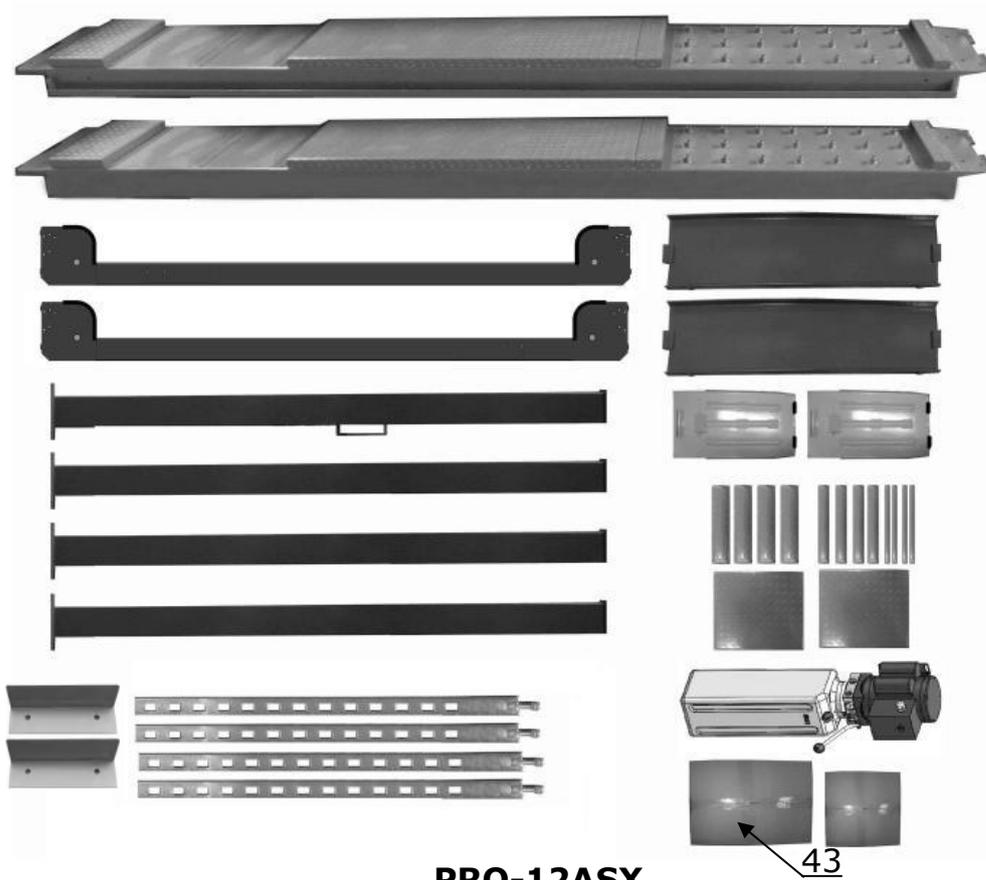

Fig.8
3. Move the columns and drive-in ramps aside to the installation position. (**see Fig 8**)